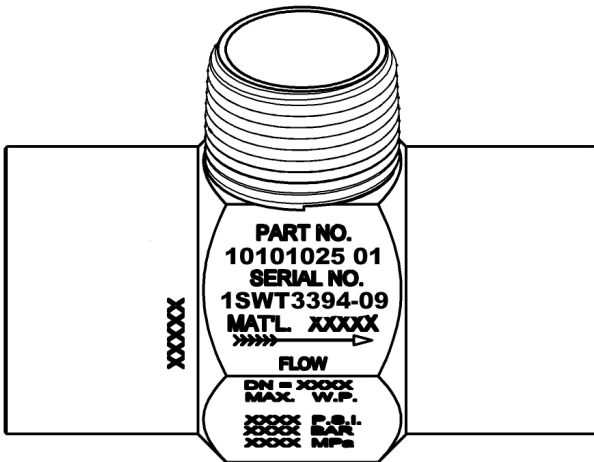

Figure 4—Product identification engraved on flowmeter body (shown on hex body)
For easy reference, the meter specifications to include part number, serial number, maximum working pressure, and minimum/maximum operating temperature are imprinted on a stainless steel tag (Figure 2 and Figure 3 on page 2) or engraved on the meter body (Figure 4, page 3). Meters with a working pressure up to 7500 are marked with a CSA single seal rating.
1. Note that the arrows that are cast or engraved on each part, indicating the direction of flow. When the meter is assembled, these arrowheads and the arrow engraved on the meter body (see flow direction indicator in Figure 4, page 3) must point in the direction that product will flow through the meter.